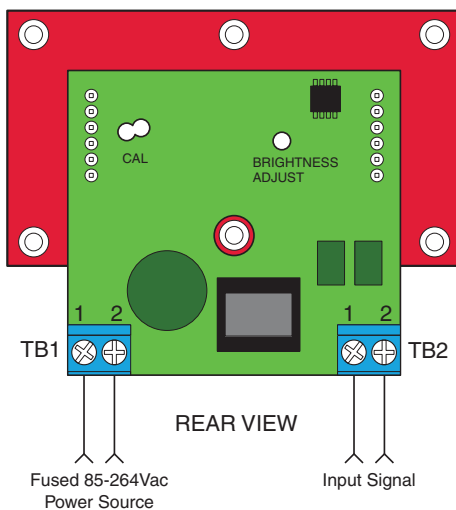

Figure 1. DMU-30DCV wiring diagram
- 3. Power Supply Polarity, Fusing, Wiring and Grounding:** The power supply inputs (TB1-1 and TB1-2) on DMU-30DCV voltmeters are not polarity sensitive, that is, they have no "AC LO" or "AC HI" designations. These units do not include or require a connection to earth/chassis ground. Refer to Figure 1 for a typical wiring diagram.